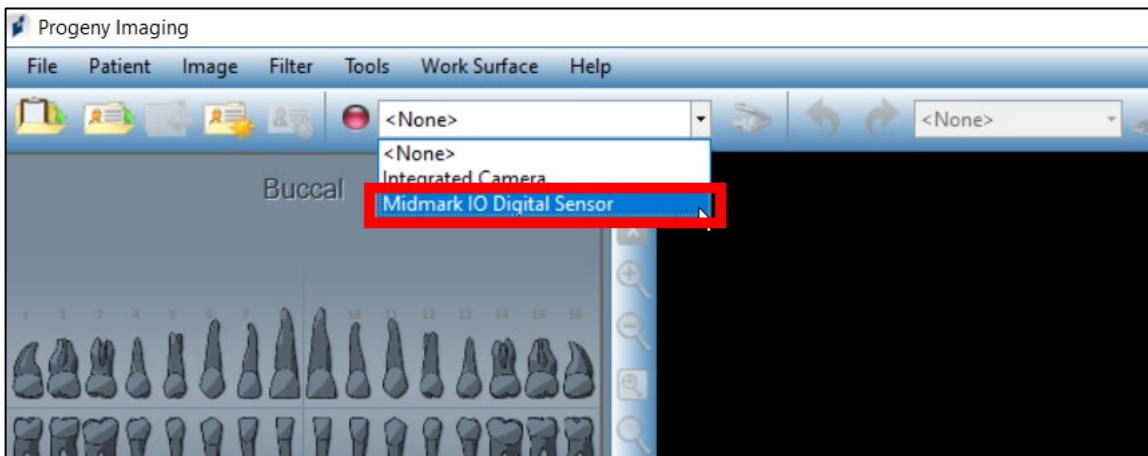

Figure 22. The device selection drop-down in Progeny Imaging.
- A drop-down menu appears with a list of devices. Click on the name that corresponds to the device that was just plugged in. (I.e., “Midmark IO Digital Sensor.”) See Figure 22 below.